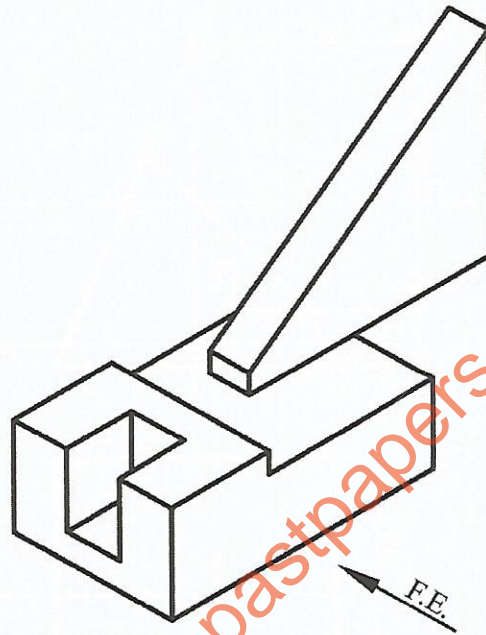

Figure 1
6. **Figure 1** shows a block drawn in isometric projection. Draw in good proportion the following views in third angle projection: